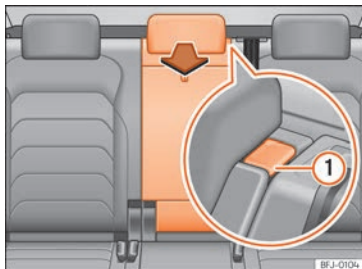

Fig. 130 Backrest of the rear seat: opening the trapdoor for long loads
- Press the unlocking button »» Fig. 130 ⓘ and fold the tailboard forward »» ⚠.